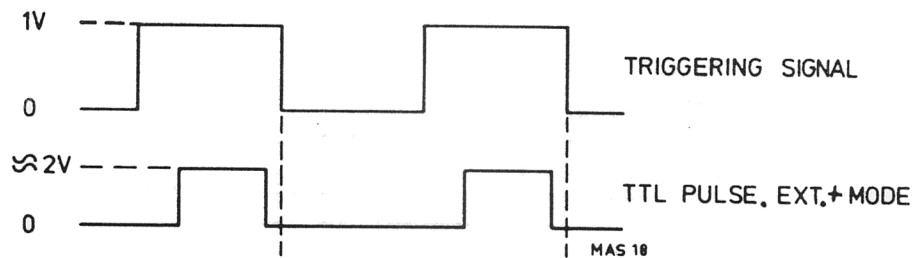

Fig. IX-1 External triggering, EXT + mode
3.4. Check that oscilloscope displays waveform similar to figure IX-1.